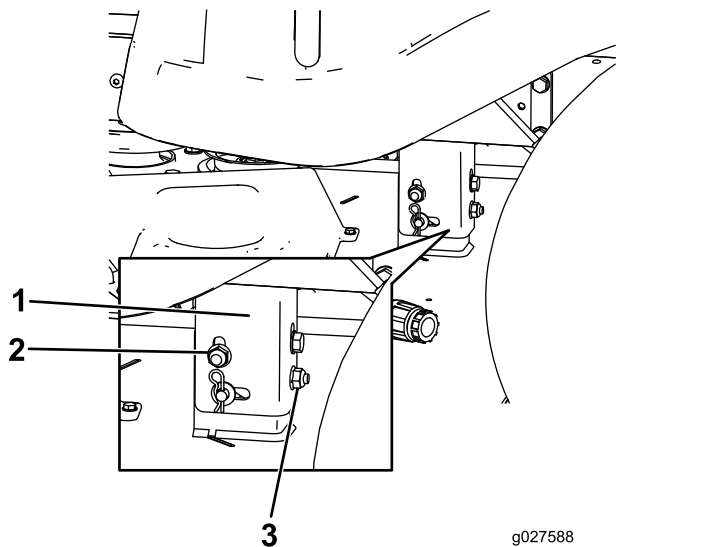

Figure 54
8. Raise or lower the left side of the mower deck by rotating the rear nut. (Figure 54).